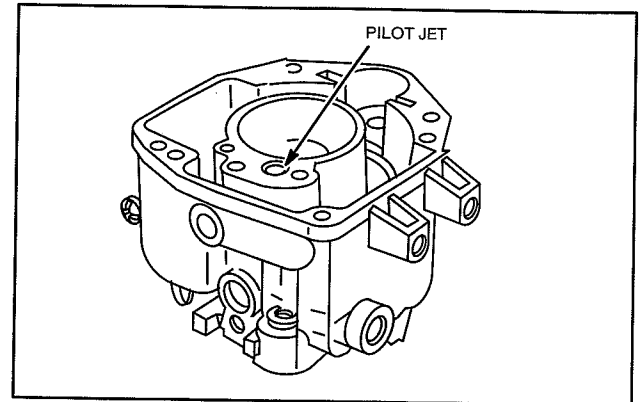

Fig. 82 – Remove Pilot Jet
7. Remove pilot jet using screwdriver, Tool #19061, Fig. 82.